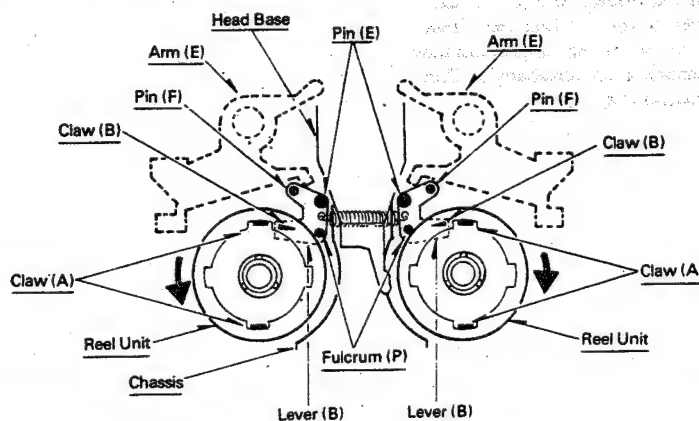

Fig. 7
• Anti-reel reversal mechanism (Fig. 7)
1. Claws (A) and (B) serve to prevent the Reel Units from reversing owing to difference in torque between them before the tape is wound up, and the sensing mechanism is activated.
2. Claw (A), while rotating in the arrowed direction together with the Reel Unit, flips Claw (B) protruding from Lever (B) to continue rotation. However, Claw (A), in reversing its rotation, is caught by Claw (B), with the result Lever (B) is turned toward the Chassis side